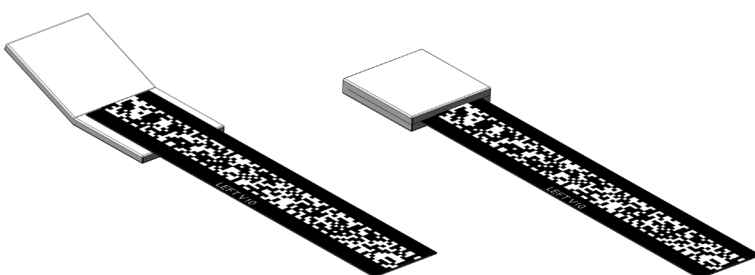

Figure 25: Code tape end cover
3. Cut off the excess APS code tape. Use a tinsnip which can cut a minimum of 0.7 mm of stainless steel. Attach the provided code tape end cover to the end of the code tape to prevent potential injury → Figure 25.
4. Cover the end piece with the second provided code tape end cover in order to avoid injury on the sharp edge → Figure 25.